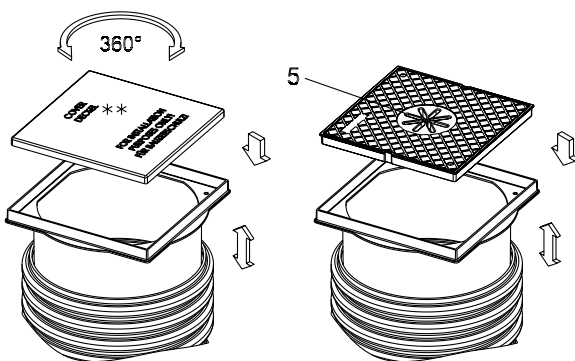

Figure 5 Mounting of upper fitting
1. Insert the white plastic installation cover into the frame of the upper fitting. The cover is only suitable for foot traffic (See Figure 5).